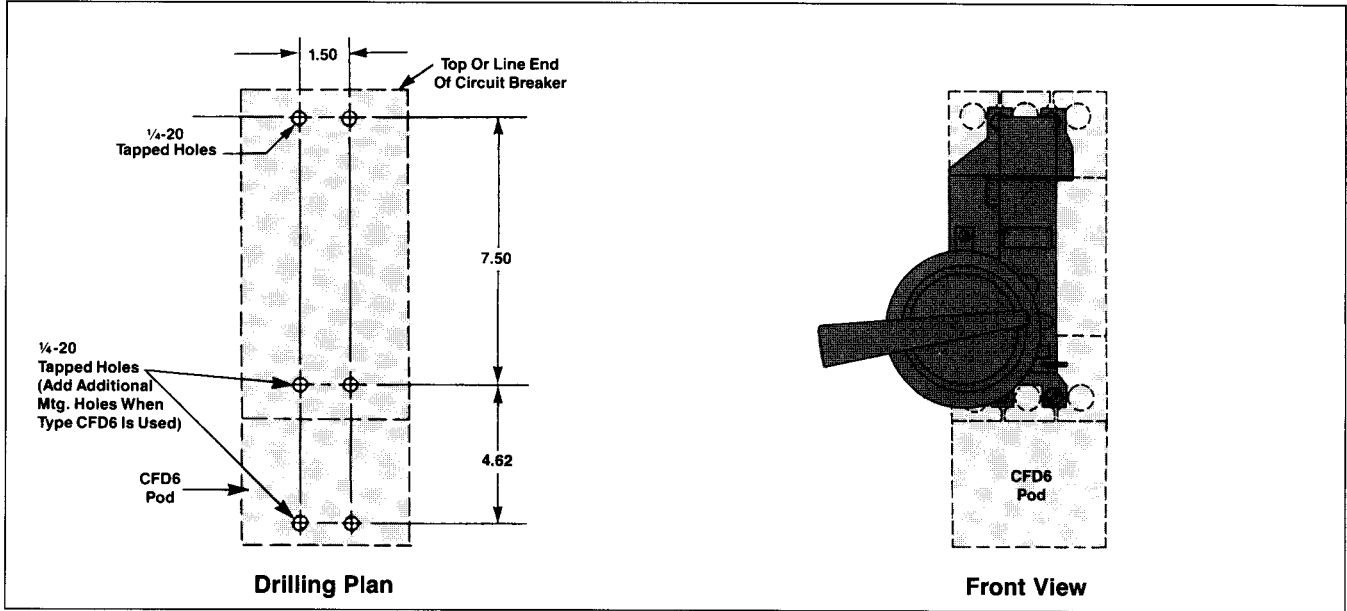

Figure 1
- A. Drill and tap breaker mounting holes as shown in Figure 1.